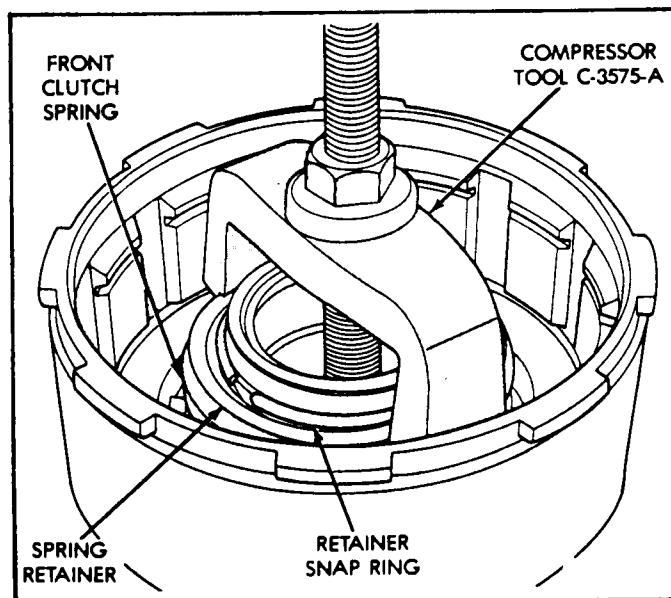

Figure 64
11. Compress the return spring and install snap ring (See Figure 64).